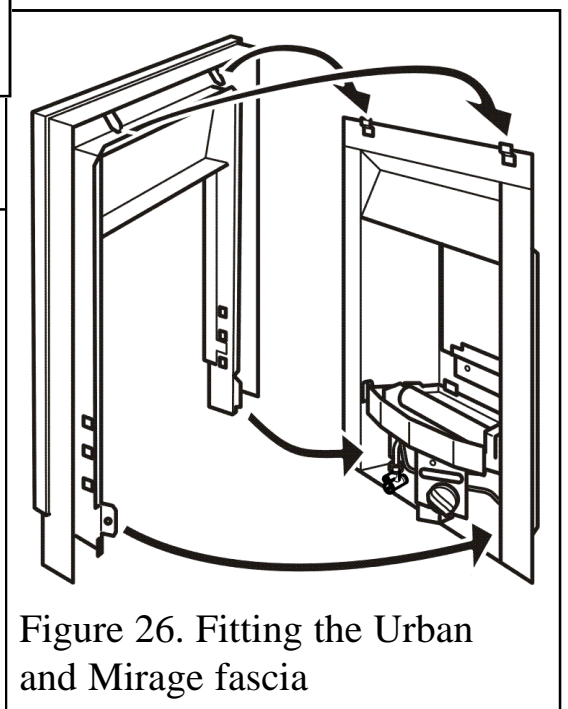

Figure 26. Fitting the Urban and Mirage fascia
1. Fit the fascia to the appliance by locating the top to the upper hanging brackets (Figure 26), then attaching it to the body of the appliance using the two 'C' screws supplied (Figure 23)